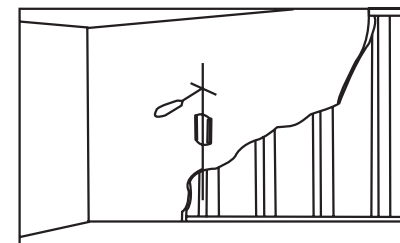

Fig 2b
Using a awl or nail to make where the nails are located, as shown as fig.2b. Distance between two nails for fixing wall mount must not less than 12". Pre-drill these holes with a 5mm drill bit to at least 40mm in deep hole. Please make sure these holes are level and located at center. Use wall mount as a template to mark the location of other three holes and drill the same holes. Fix the wall mount to the wall with 4 long bolts(J) and washers(L).